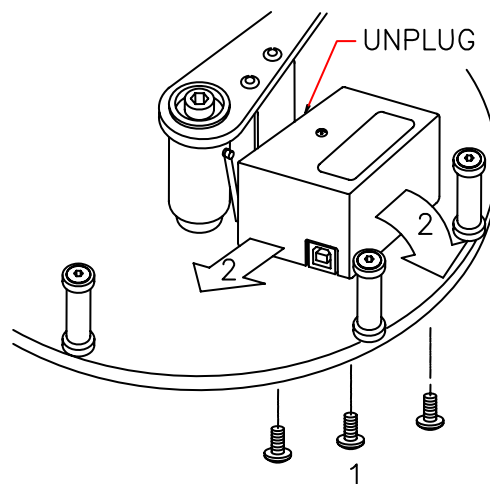
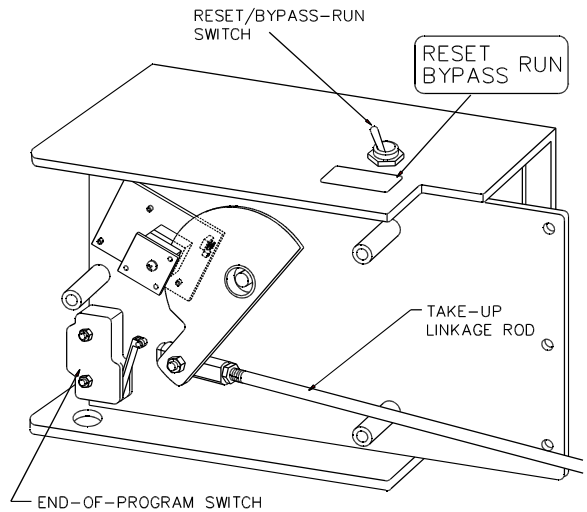

Figure 11
Figure 14
2. Unplug the wiring harness and rotate the arm clockwise. Carefully slide the SCDC Control away from the mask and back as you rotate the arm counterclockwise until the control is clear of the mask. Remove the control. (See Figure 11).
The SCDC Platter System is shipped with a **Brain Wrap Drop-Out Timer** installed. When an **Optional** Wrap Detector is installed, the timer will remove all power to the column (pay-out, re-wind and lighting) after a maximum of six continuous seconds of brain wrap detection. The **Reset/Bypass - Run** switch is then placed in the “**Reset/Bypass**” position to re-power the platter system and reset the timer. After the wrap condition has been corrected place the **Reset/Bypass - Run** switch to the “**Run**” position (see Figure 14).
An **End-of-Program Micro-switch** is available as an option to be installed in the power supply housing (see figure 14). The switch will shut down the platter at the end of the film or if a problem occurs causing the film take-up to drop to the bottom of its travel. An access hole below the switch allows external wiring to be routed to the switch. See Parts Manual #4494 for the switch and mounting hardware part numbers.
The SCDC Rewind Card red indicator LED is visible through the opening on the back of the power supply case where the linkage arm travels (Figure 14), or on the end of the SCDC Pay-Out control (Figure 11). At power-up the red LED will blink a number of times equivalent to the version number of the software installed on the control. It will then begin **continuous fast blinking** if the control is operating properly.